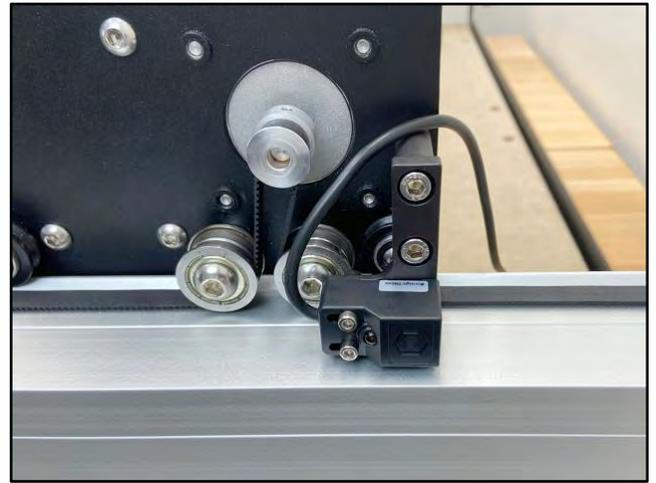

Figure 34
1. Install the Y-Axis proximity switch mount to the outside of the Y2-carriage. See **Fig. 34**.
- a. Use a 4mm hex key and two (2) M5×35mm SHCS to secure the mount to the outside of the Y2-carriage.
2. Attach Y-Axis proximity switch to the mount. See **Fig. 34**.
- d. Use a 2.5mm hex key and two (2) M3×18mm SHCS to secure.